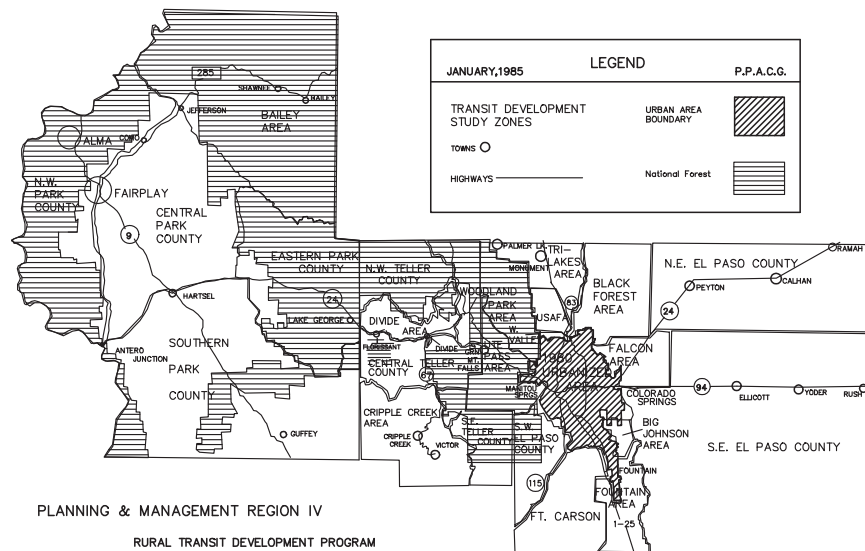

Fig. 19-1
**A**utoCAD's hatching and sketching features can help enhance the visual appearance and readability of a drawing. For example, on the map shown in Fig. 19-1 on page 248, hatching makes it easy to tell which parts of the area are national forest and which are urban areas. The irregular lines representing the roads were created using the **SKETCH** command.